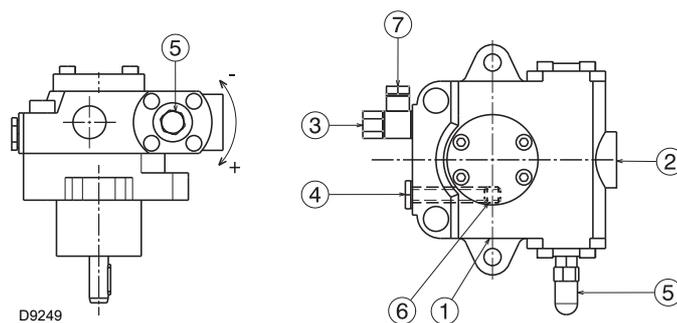

Fig. 23
They are installed on the burner with the by-pass closed by screw 6)(Fig. 23).
- In order for the pump (Fig. 23) to self-prime, it is vital that the screw 4) of the pump be loosened to vent the air contained in the suction line.
Key (Fig. 23)
The a.m. operation is possible because the pump is already full of fuel when it leaves the factory. If the pump has been drained, fill it with fuel through the opening on the vacuometer 4)(Fig. 23) prior to starting; otherwise, the pump will seize.